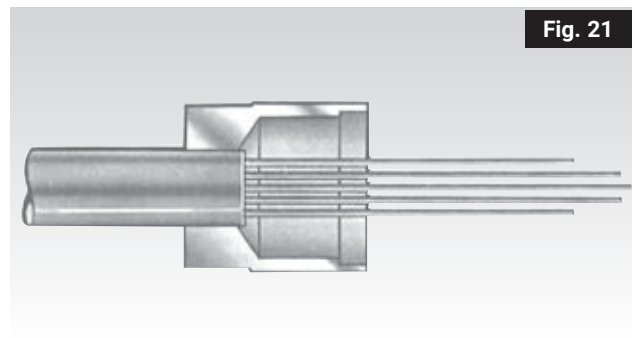

Fig. 21
- Nineteen – Shorten the twelve outer conductors Conductors by 20mm and the inner six conductors by 10mm (Fig. 21).